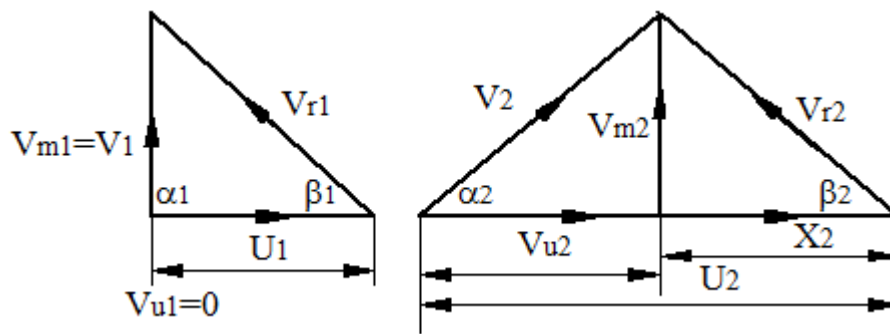

Fig. 5.5 Velocity triangles for centrifugal pump
**Answer:** The velocity diagram for centrifugal pumps and compressor with  $V_{u1} = 0$  is as shown in figure 5.5.